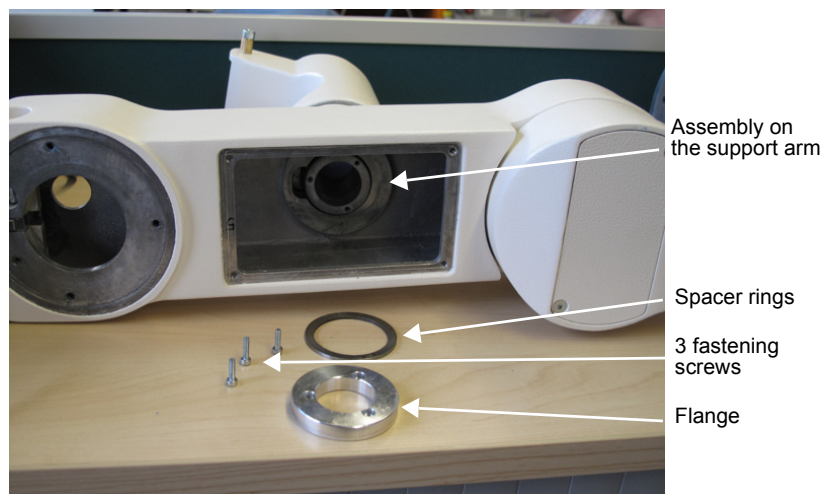

Fig. 12-7 Support arm with Solo Center from below
- Remove the spacer rings and the flange (→ Fig. 12-7).